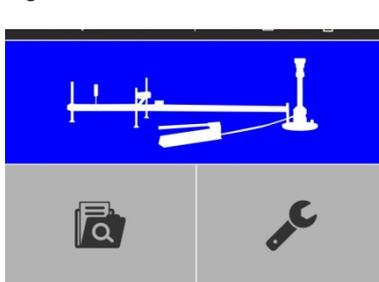

Figure 11
- ⇒ Then button »Measuring« will be activated (Figure 11) and »GPS« is displayed in status line.
- Confirm the button »Measuring« (Figure 11) by pressing the  key.